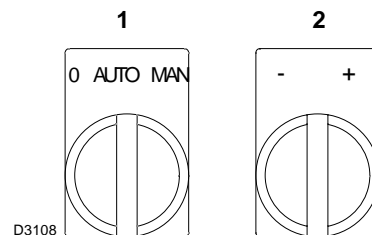

Fig. 25
Put the selector 1)(Fig. 25) in position "MAN".
Turn the selector 2)(Fig. 25) "output reduction", and keep it turned to "-" until the servomotor has closed the air damper and the gas butterfly valve at 35 (adjustment made in the factory).
- If you need to increase it, rotate the "power increase" selector 2)(Fig. 25) (open the gas butterfly valve by 10-15), and increase the cam angle 2)(Fig. 26) with a series of small movements - i.e. move from angle 35° to 37° - 39°....
The passage from one position to the next one is obtained by pressing the selector 2)(Fig. 25) on the symbol (+) or (-).